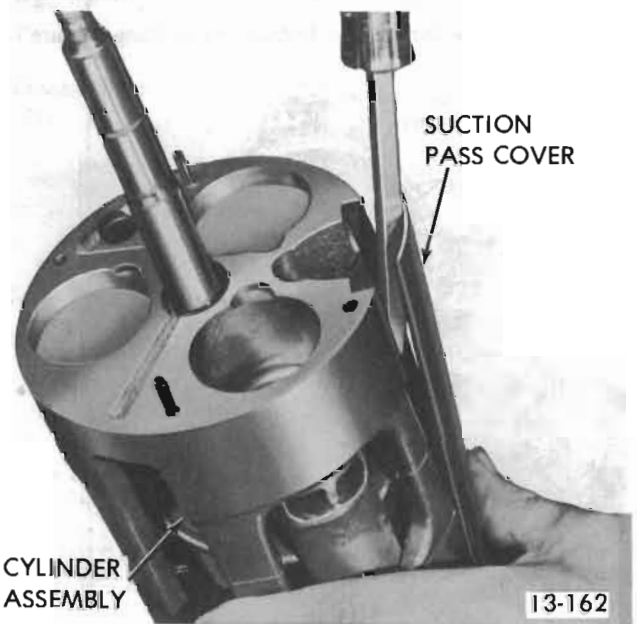

Figure 13-42 Removing Suction Pass Cover
1. Pry off suction pass cover using screwdriver (see Figure 13-42).